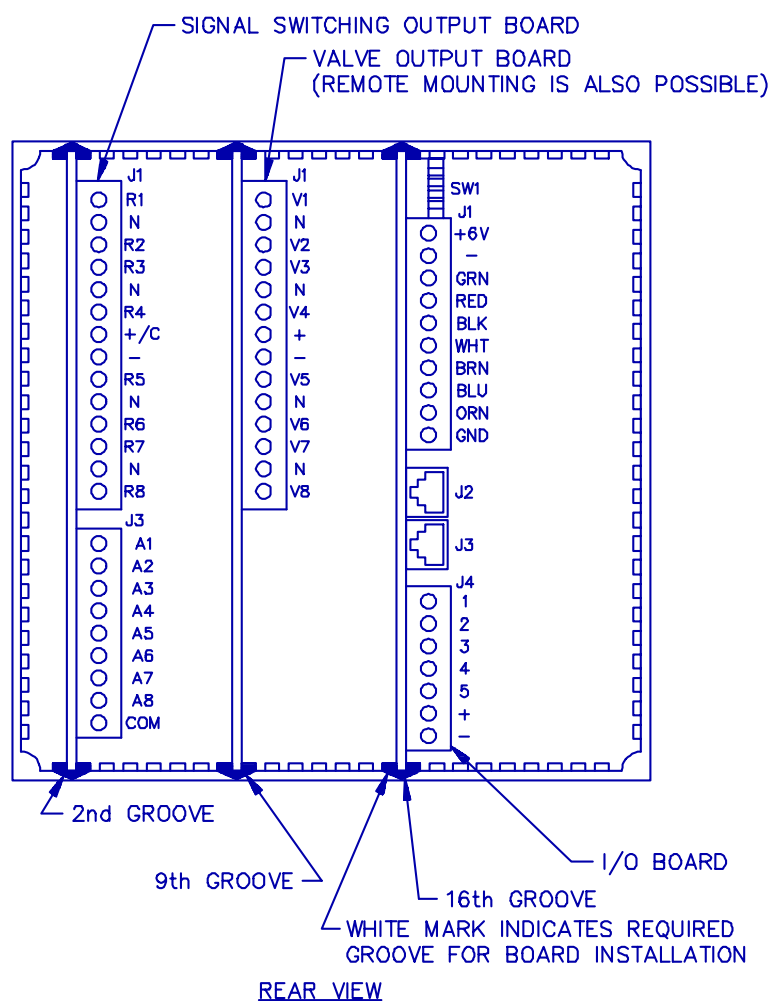

FIGURE 17 - Sample Sequencer Assembly with Signal Switching Output Board (Rear View)
The Sample Sequencer with optional output boards has the capability of outputting analog signals to recorders. There are three types of optional signal output boards available: Signal Switching output board; 0 - 1 VDC output board; and the plug-in electronic track & hold board. See General Description for more information about these boards. Figure 17 and 18 shows the Sample Sequencer assembly with these board options. **Note: The signal switching board or 0-1 volt board cannot be used with the plug-in electronic track & hold board.**
4. Install the signal switching output board in slot marked on the Sample Sequencer enclosure as shown in Figure 17. Install by plugging the board into the corresponding connector of the display board. (**NOTE:** The board should be installed such that board components are on the right side as viewed from the rear.)
4. Install the signal switching output board in either of two slot locations marked on the Sample Sequencer enclosure as shown in Figure 17. Install by plugging the board into the corresponding connector of the display board. (**NOTE:** The board should be installed such that board components are on the right side as viewed from the rear.)
3. Install the signal switching output board in either of two locations marked on the Sample Sequencer enclosure as shown in Figure 17. Install by plugging the board into the corresponding connector of the display board. The board should be installed such that board components are on the right side as viewed from the rear.